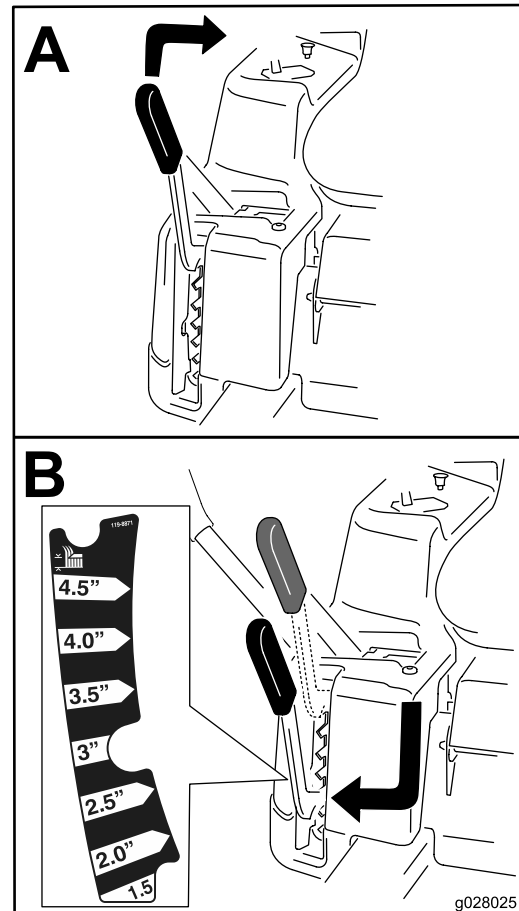

Figure 18
**Note:** The transport position is the highest height-of-cut position or cutting height (115 mm (4.5 inches)) as shown in Figure 18.